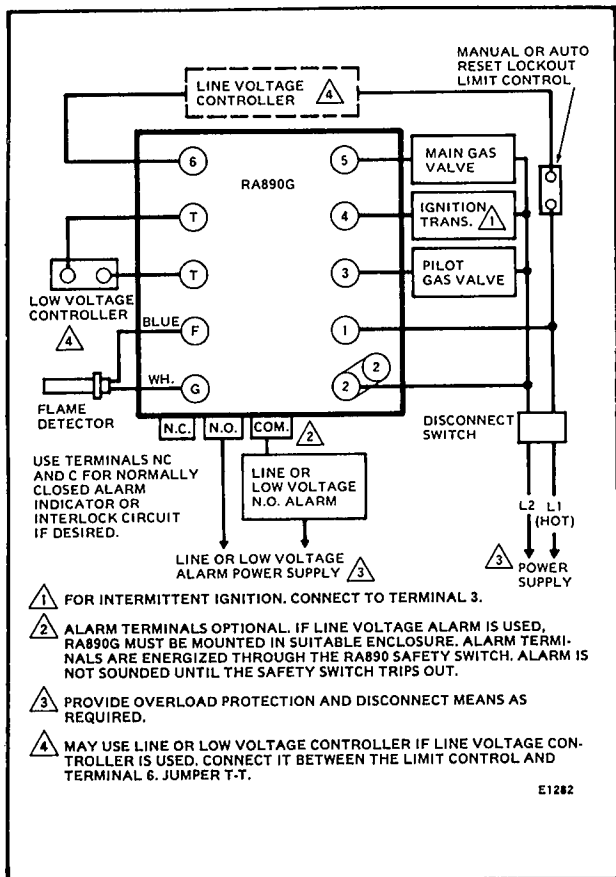

FIG. 2—GAS SYSTEM WITH INTERRUPTED IGNITION.
5. Refer to Figs. 2 to 5 for typical field wiring connections. Follow the burner manufacturer's wiring diagram as provided.